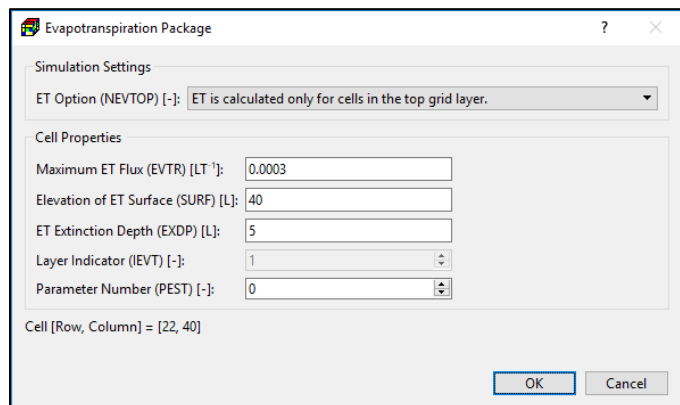

Figure 45. The Evapotranspiration Package dialog box
1. All input methods: Figure 45 shows the dialog box for specifying cell, vertex, or polygon properties.